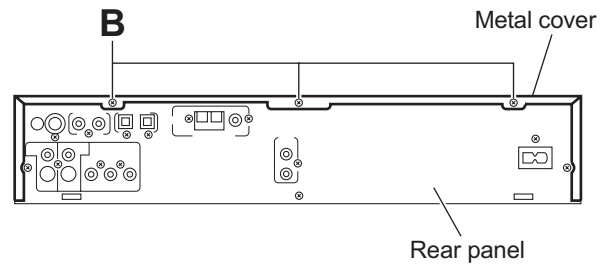

Fig.3
- (2) From the back side of the main body, remove the three screws **B** attaching the metal cover. (See Fig.3.)